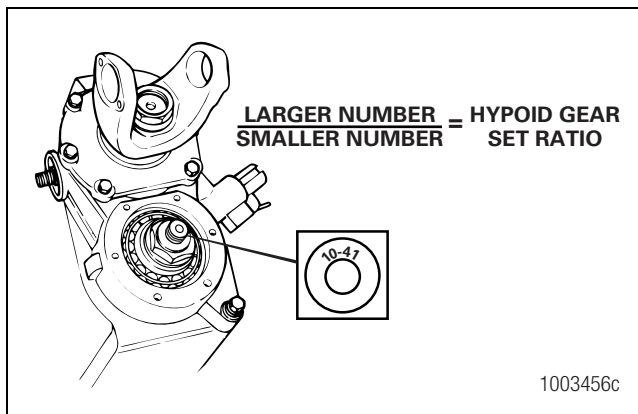

Figure 4.20
2. Look into the carrier housing. Identify and record the gear set teeth numbers stamped on the drive pinion end. Figure 4.20.
3. Calculate the hypoid gear set ratio by dividing the larger number by the smaller number. Figure 4.20.